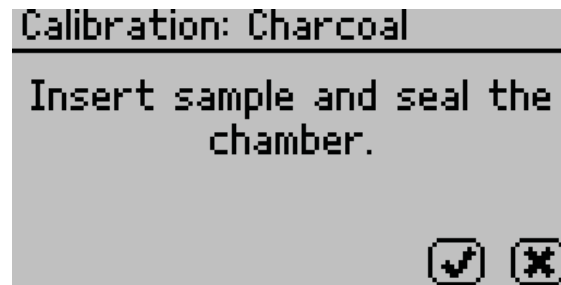

Figure 12 Prompt to place sample in chamber
13. Place a sample in the sample chamber when prompted (Figure 12).